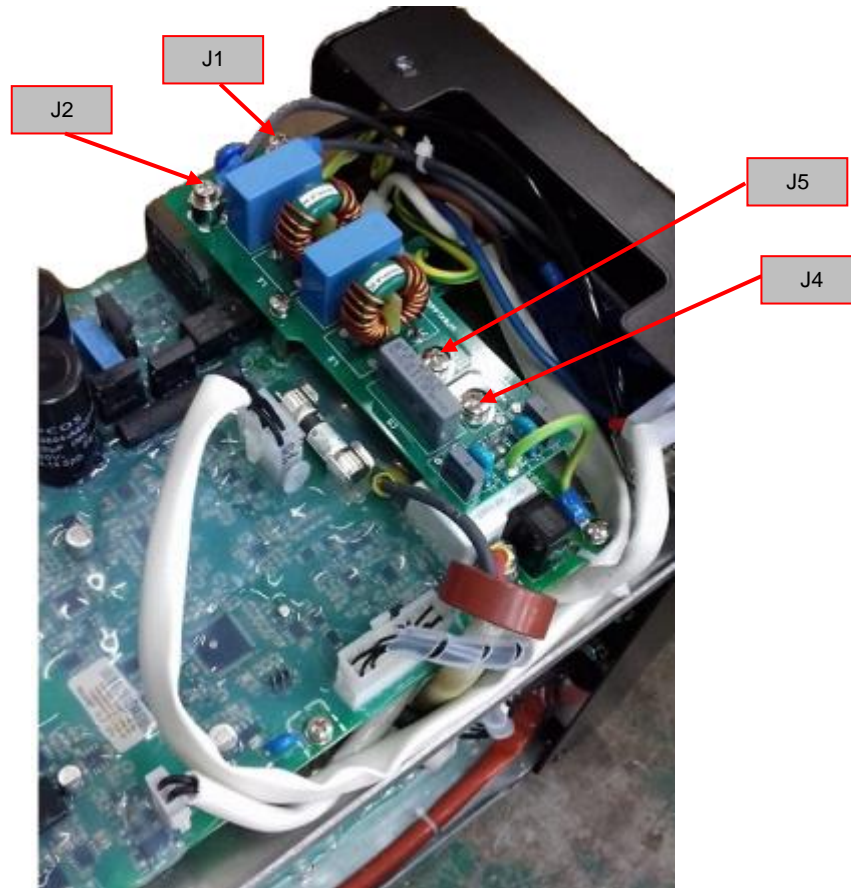

Figure 2 – W05X1665 – EMI FILTER BOARD
3. Locate the EMI Filter Board W05X1665 (see **Figure 2**).
5. Using the Volt-Ohmmeter (ohm mode) perform the tests as indicated in **Test Table 1**. See **Figure 2** for correct test points location.
7. Switch to ON position the main switch and using the voltmeter in AC mode perform the tests as indicated in **Test Table 2**. See **Figure 2** for correct test points location.